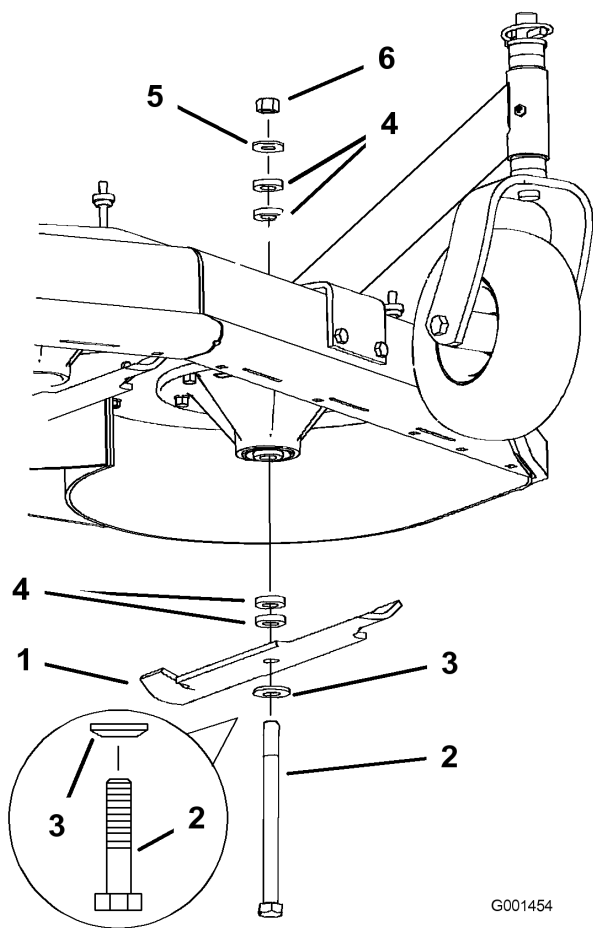

Figure 40
2. Remove the nut, blade bolt, curved washer, blade, spacers, and thin washer from the spindle (Figure 40).
1. Place the blade onto the bolt and over the curved washer. Select the proper number of spacer(s) for the height-of-cut, and slide the bolt into the spindle (Figure 40).